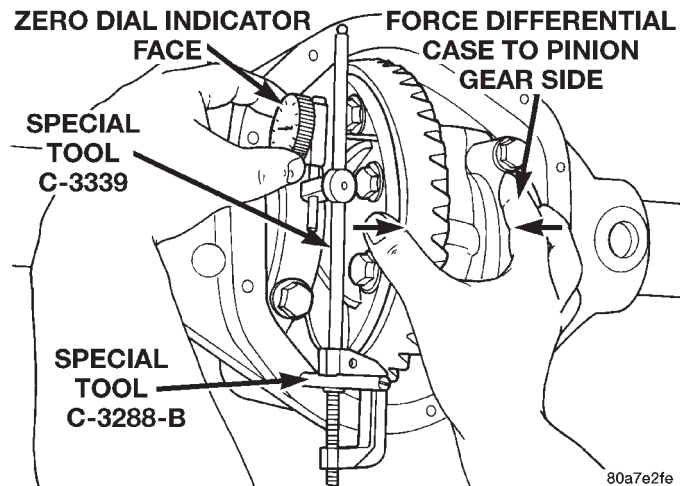

Fig. 65 Hold Differential Case and Zero Dial Indicator
(10) Push and hold differential case to pinion gear side of axle housing (Fig. 65).
(11) Zero dial indicator face to pointer (Fig. 65).